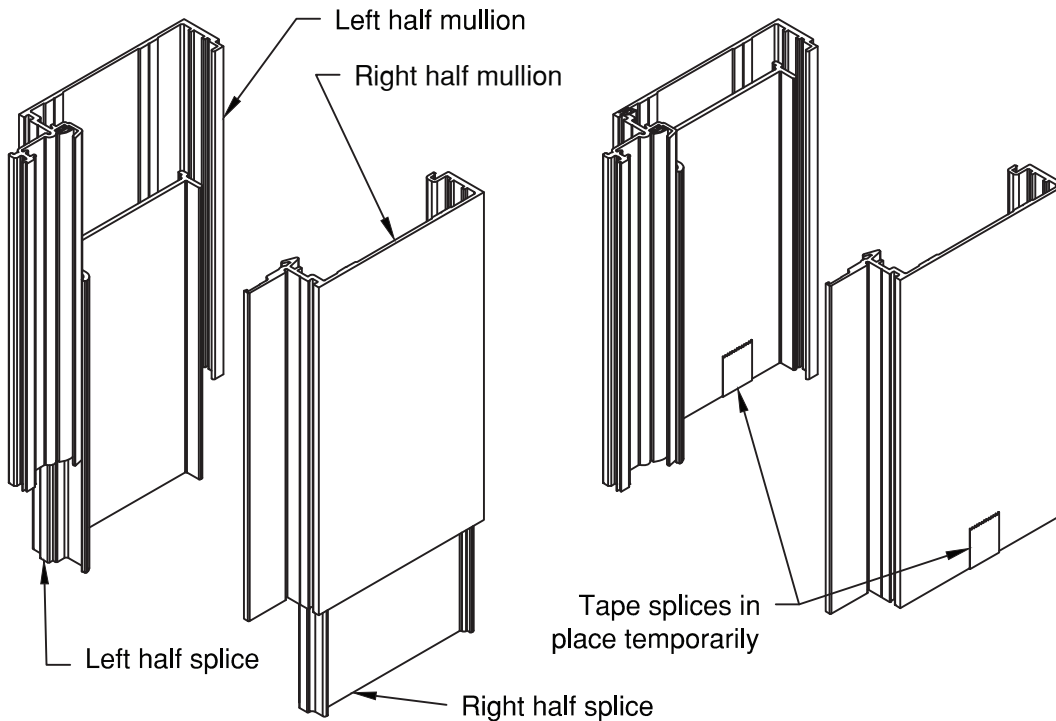
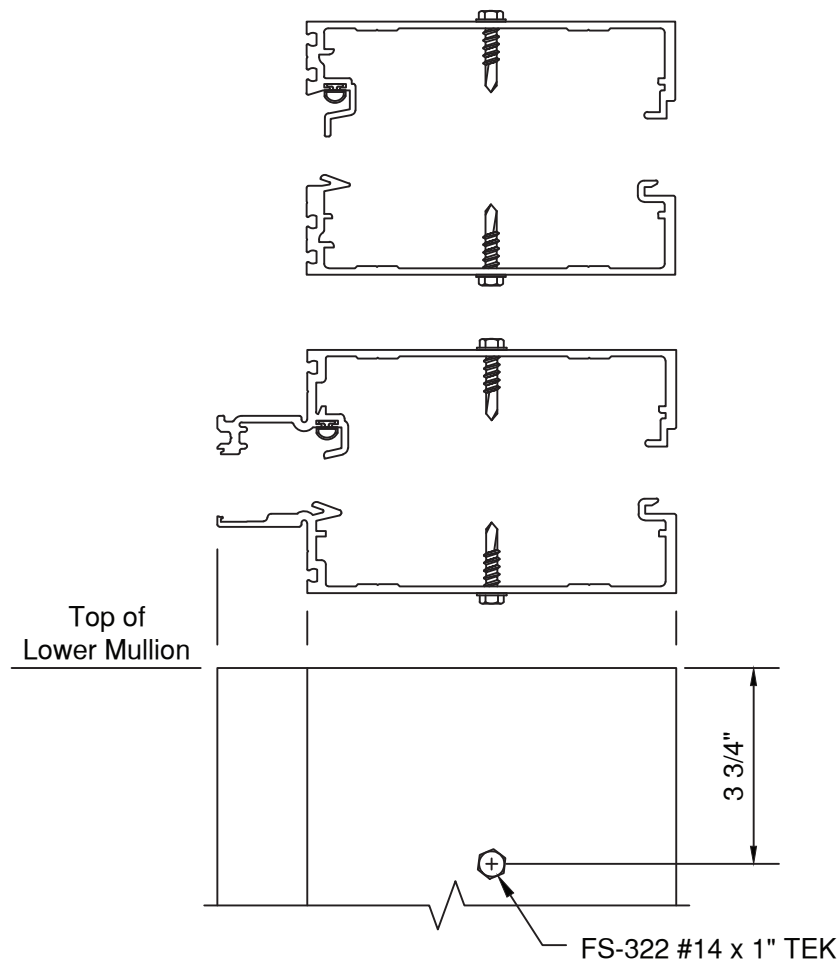

FIGURE 10
FIGURE 11
- 2.4 If mullions are spliced, slide splice sleeves into the bottom of the upper bay mullion. Secure with tape. **SEE FIGURE 10.** Install one (1) FS-322 #14 x 1" TEK screw into the top of the lower bay mullion to act as a stop screw for the splices during frame installation. **SEE FIGURE 11, page 11.**